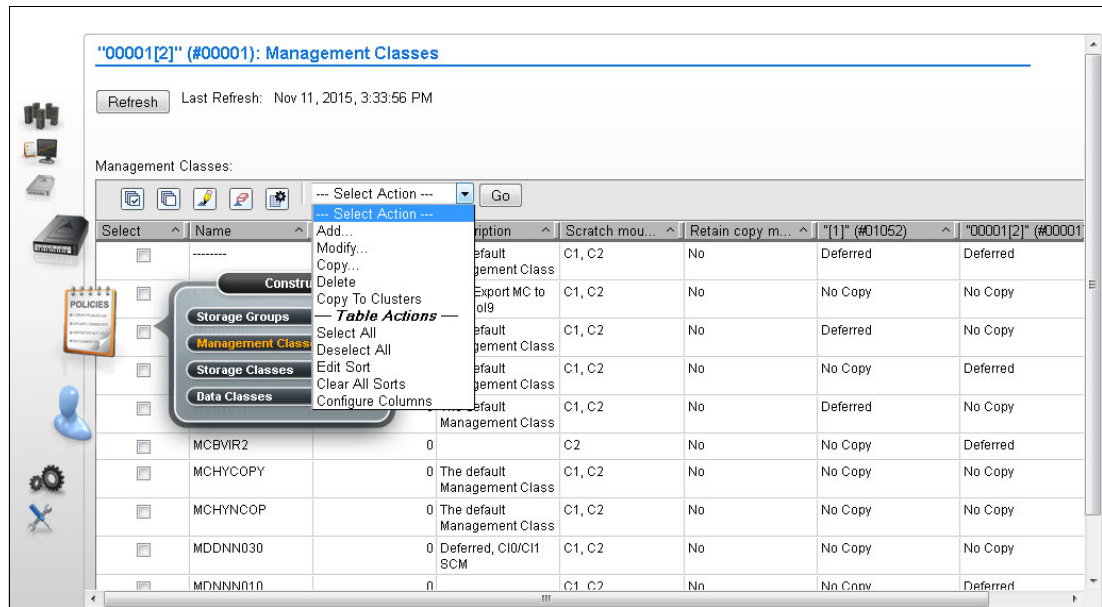

Figure 9-96 MI Management Classes window on a grid
To define, modify, copy, or delete the MC that defines the TS7700 copy policy for volume redundancy, use this window (Figure 9-96). The table displays the copy policy that is in force for each component of the grid.
1. Select **Add** from the Management Class menu that is shown in Figure 9-96 on page 439 and click **Go**.